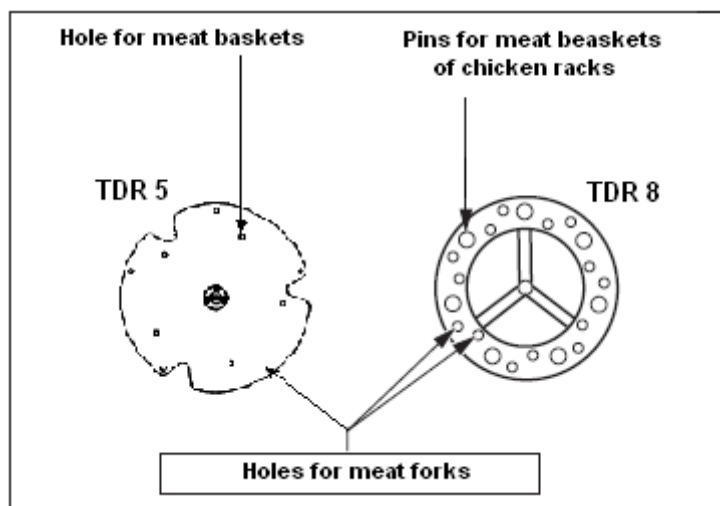

Figure 2.3
- Place the meat forks in the rotor disks (see figure 2.3).
- With both the TDR 8 and TDR 8+8 you must attach the meat baskets to the appropriate pins (see figures 2.3 and 3.9).